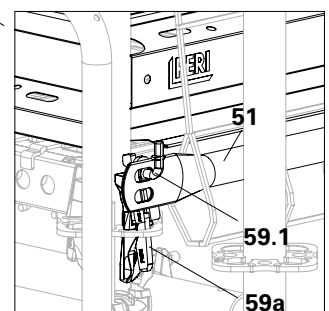

Fig. C2.05a
6. Secure the guardrail posts on the Guardrail Holder EPW at the beginning and end of the protection panel with suitable means. (Fig. C2.05a)